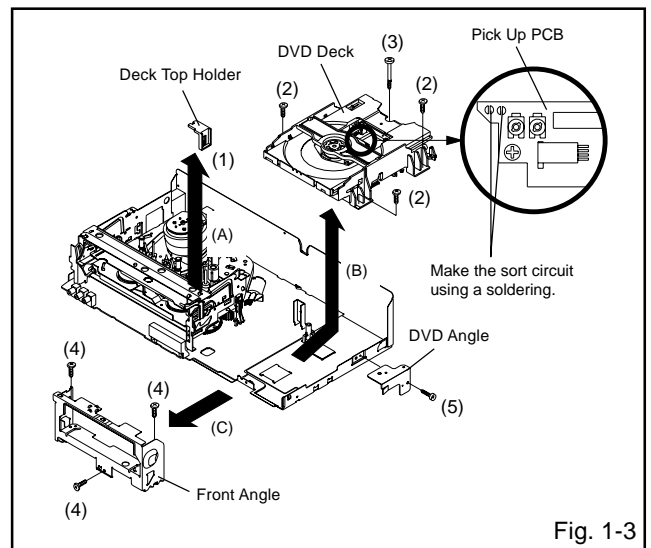

Fig. 1-3
### 1-3: DVD DECK (Refer to Fig. 1-3)
1. Make the short circuit on the position as shown Fig. 1-3 using a soldering. If you remove the DVD Deck with no soldering, the Laser may be damaged.
2. Unlock the support (1) and remove the Deck Top Holder in the direction of arrow (A).
3. Remove the 3 screws (2).
4. Remove the screw (3).
6. Remove the DVD Deck in the direction of arrow (B).
7. Remove the 3 screws (4).
8. Remove the Front Angle in the direction of arrow (C).
9. Remove the screw (5).